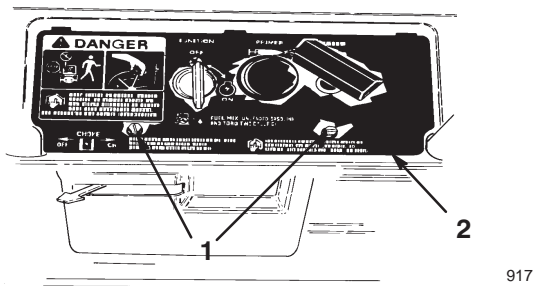

Figure 13
3. Remove the two screws that secure the control panel to the housing (Fig. 13).